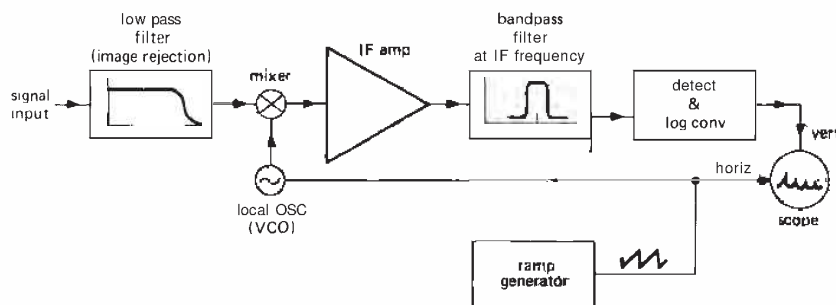

Figure 15.43. Swept-LO spectrum analyzer.
Spectrum analyzers come in two basic varieties: swept-tuned and real-time. Swept analyzers are the most common variety, and they work as shown in Figure 15.43. What you have is basically a superheterodyne receiver (see Section 13.16), with a local oscillator (LO) that can be swept by an internally generated ramp waveform. As the LO is swept through its range of frequencies, different input frequencies are successively mixed to pass through the IF amplifier and filter. For example, suppose you have a spectrum analyzer with an IF of 200MHz and an LO
chirp/Z transform. In this method a dispersive filter (delay time proportional to frequency) replaces the IF bandpass filter in the swept-LO analyzer (Fig. 15.43). By matching the LO sweep rate to the filter's dispersion, you get an output that superficially resembles the swept analyzer output, namely a linear scan of frequency versus time during each sweep. However, in contrast to the swept-LO analyzer, this scheme gathers signals from the entire band of frequencies continuously. Another interesting technique for real-time spectral analysis is the Bragg cell (or "acousto-optic spectrometer"), in which the IF signal is used to generate acoustic waves in a transparent crystal. These deformations diffract a laser beam, generating a real-time display of the frequency spectrum as light intensity versus position. An array of photodetectors completes the analyzer output. Bragg-cell spectrometers are used in radio astronomy. A typical unit has 2GHz instantaneous bandwidth, analyzed into 16,000 channels of 125kHz bandwidth each. When choosing a spectrum analyzer type, be sure to consider trade-offs among bandwidth, resolution, linearity, and dynamic range.